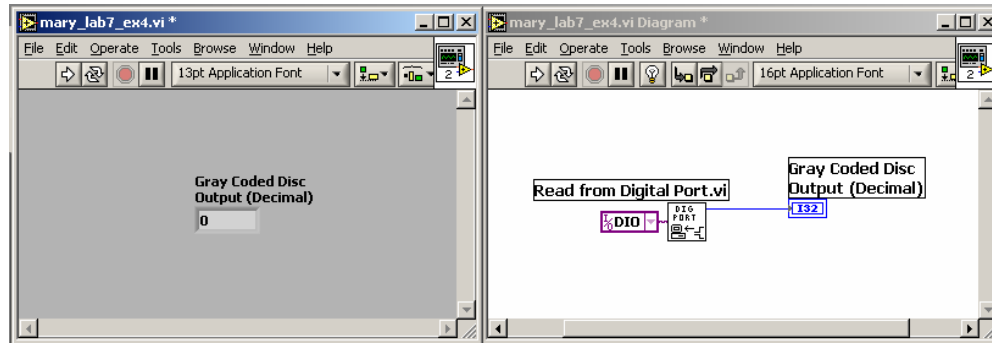

Figure 7. yourname_lab7_ex4.vi: VI for acquiring digital feedback from gray coded disc.
1. Build the VI shown in Figure 7 and save this VI as **yourname_lab7_ex4.vi**.